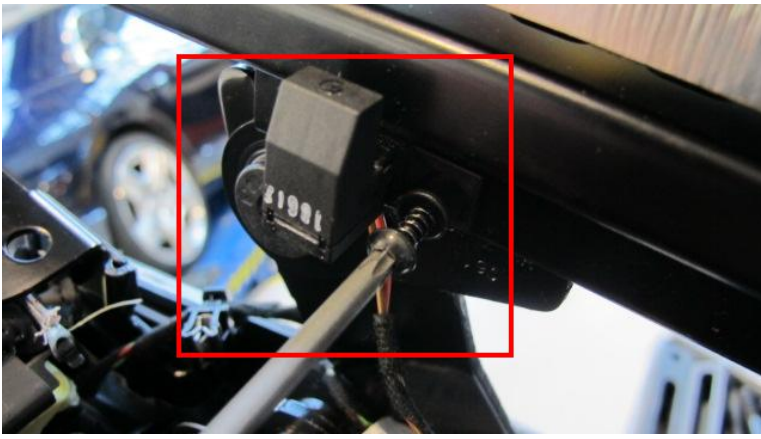

Figure 27
4. Referring to Figure 27, remove and discard the screw which secures the proximity sensor to the seat rail and remove the sensor from the rail
- Referring back to Figure 27 – Locate the sensor tang and push fit the sensor into the seat frame, secure the sensor to the frame using a new screw with the part number N907 321 03